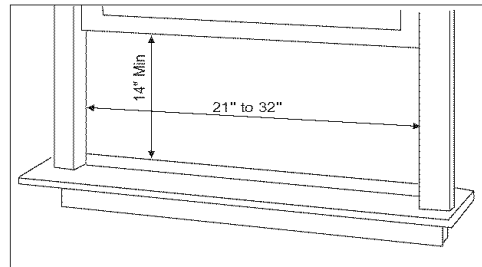

Fig. 1
**NOTE:** Save the shipping carton and packing materials for future storage or transport of the unit. Please check the contents of the hardware kit against the corresponding model check list, prior to installation of the unit. See lists below. (Fig. 1)
1. If your air conditioner cabinet 18" wide, it will fit window openings 21" to 32" in wide. Minimum opening height is 14" from bottom of sash to sill (Fig. 1).